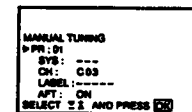

Fig. 12
- 5 Press  $\Delta$  or  $\nabla$  until "..." appears in the SYS position. (See Fig. 12.)